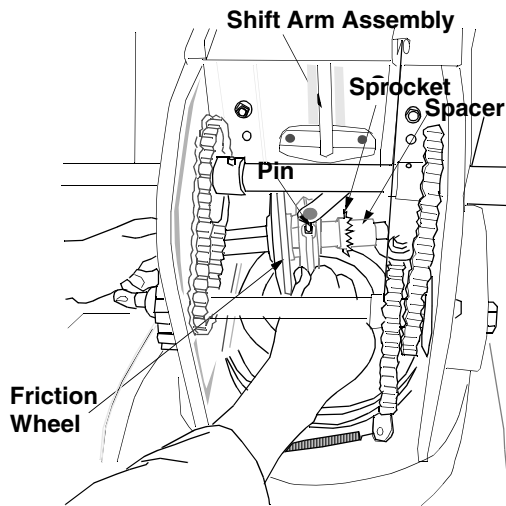

Figure 34
- Insert the pin from the shift arm assembly into the friction wheel assembly and hold assembly in position. See Figure 34.